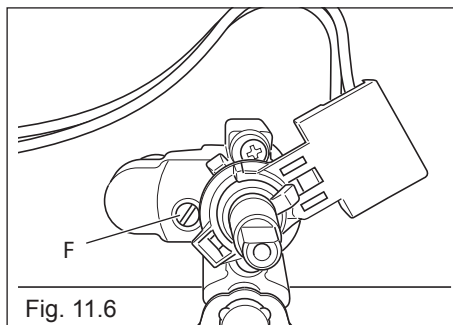

Fig. 11.6
- With a thin screwdriver turn the screw "F" until adjustment is correct (fig. 11.6).